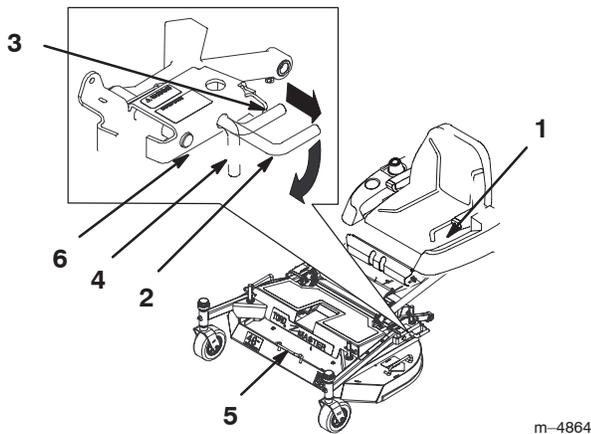

Figure 18
3. Pull out on latch pin to release and rotate into notch to hold in the unlocked position (Fig. 18). Repeat on the other side.
1. Pull out the latch pins and rotate into notch to hold in the unlocked position (Fig. 18).
3. Rotate latch pins into released position and lift on side of carrier frame near latch pin until latch pin engages (Fig. 18). Repeat on the other side.